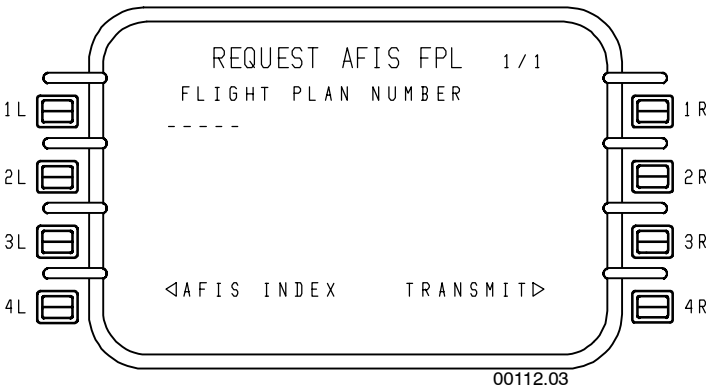

Figure 6-65
- **2L** - This prompt is selected to request a flight plan by number. When selected, the FMS displays the page shown in Figure 6-65. Insert the flight plan number at 1L and transmit the request. The FMS will send the request to the DMU. Upon receiving the flight plan from the DMU, the FMS posts the message FLT PLAN RECEIVED. The flight plan may then be loaded into the FMS using the load AFIS flight plan described in Procedure 6-6.